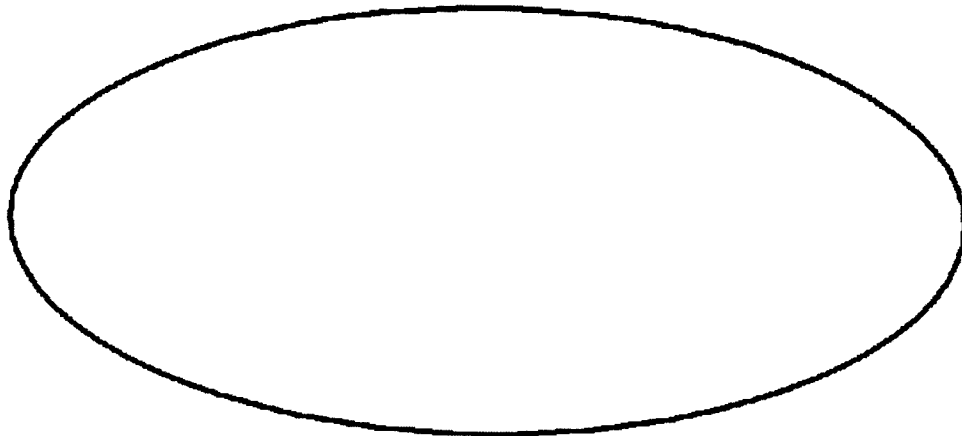

Figure 7
- (b) **Figure 7** shows an elliptical table top.